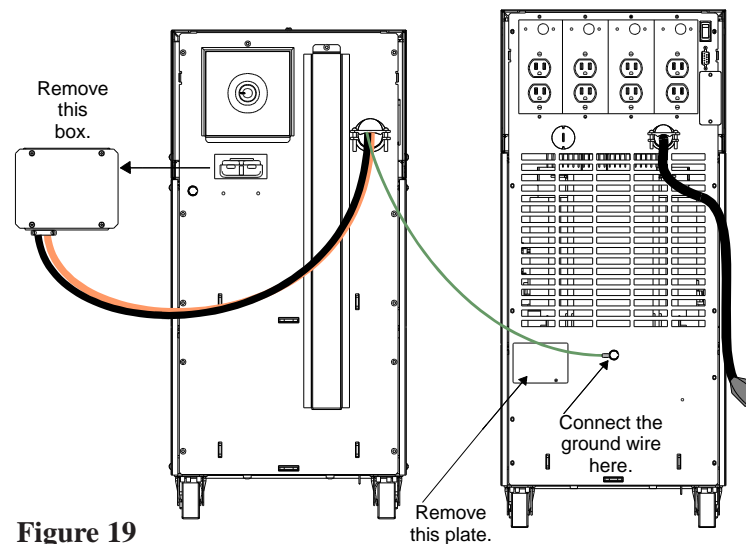
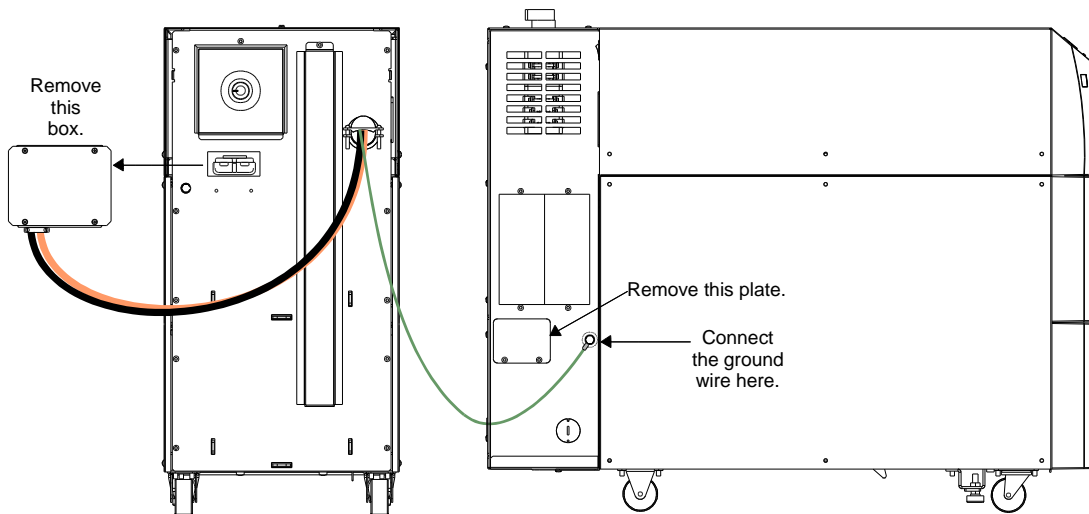

Figure 19
Figure 20
4. Remove the bolt that is labeled with the ground symbol from the back of the UPS. Then, put this bolt into the ring connector at the end of the battery cabinet's green ground cable. Use this bolt to attach the ground cable to the UPS as shown in Figure 19 (or Figure 20 for units with attached bypass switches).
5. Remove the two screws holding the metal plate on the back of the UPS. (See Figure 19; if your UPS has a bypass switch attached, see Figure 20.) Keep the screws for use later.
6. Pull the DC box out of the battery pack as shown in Figure 19 (or Figure 20 for units with attached bypass switches). Remove the packing material from behind the box.